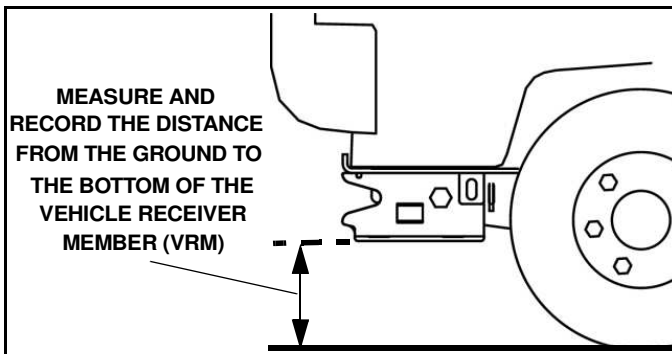

Figure 1-10
14. With the truck parked on a flat level surface, measure and record the distance from the ground to the bottom of the Vehicle Receiver Member (VRM). (See Figure 1-10).